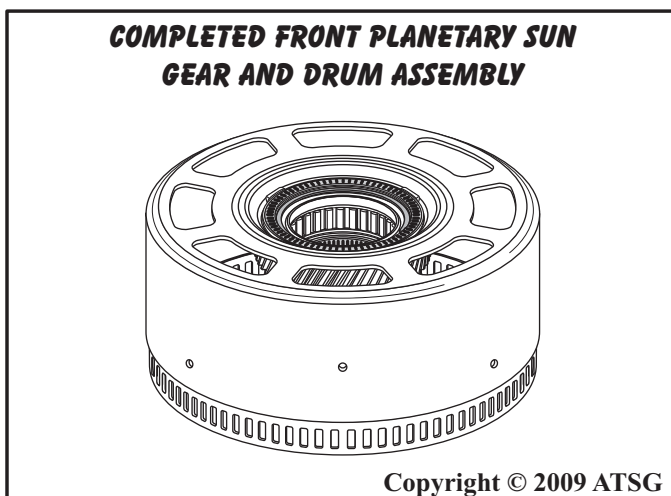

Figure 112
12. Set the completed front sun gear and drum assembly aside for the final process, as shown in Figure 112.